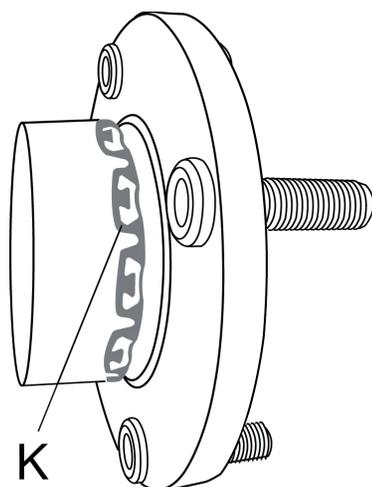

Fig 4
- To push in the new bearing/flange, hold the force nut (F) steady with a 30mm spanner while turning the force screw with a 22mm socket on a breaker-bar or long ratchet handle. (Do not use air tools.)
- Turn force screw until bearing/flange is fully home. If fitted, ensure that the tangs of the barbed retaining ring (K) are correctly seated in the retaining groove (an audible click should be heard when the barbed retaining ring seats) See Fig 4.